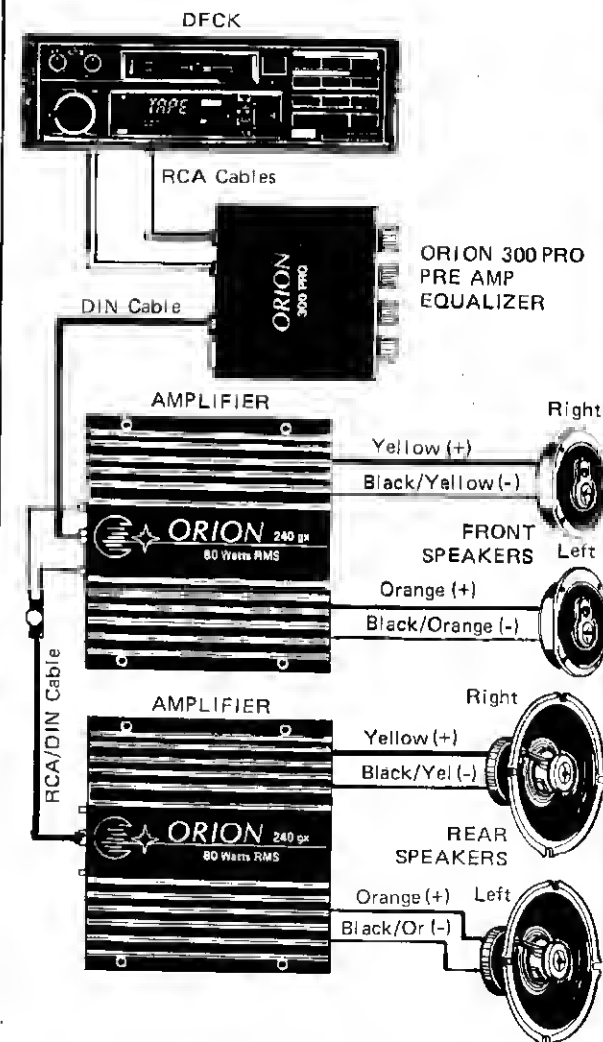

Figure 3. Basic Two-Amplifier System Using Equalizer and Existing Front and Rear Speakers
(2) **Front and Rear Speakers.** If your car is equipped with front and rear speakers, you will want to use a separate amplifier for each pair of speakers as shown in figure 3.